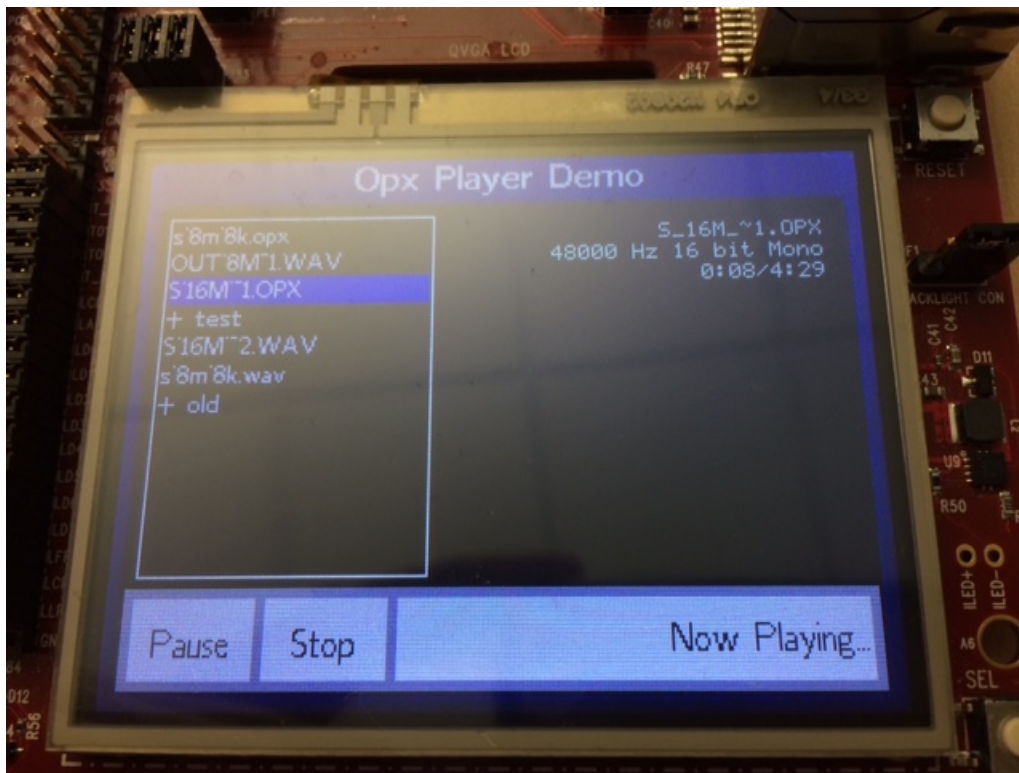

Figure 17. Application opus_playaudio_opx Running the Decoder
2. Select a file with the extension OPX and click on the Play button. The top-right of the screen shows the properties of the file (as read from the Header Segment) and the status bar on the bottom-right displays “Now Playing...” (see Figure 17). The audio will now be audible on the on-board speaker.